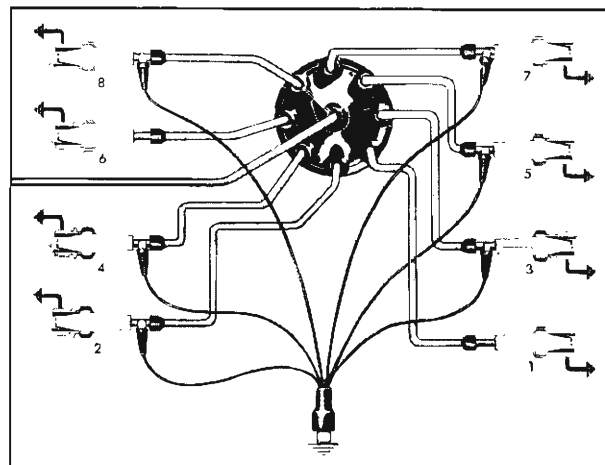

Fig. 22--Cylinder Balance Test
3. Ground large clip of grounding leads and connect individual leads to all spark plugs except the pair being tested (fig. 22).